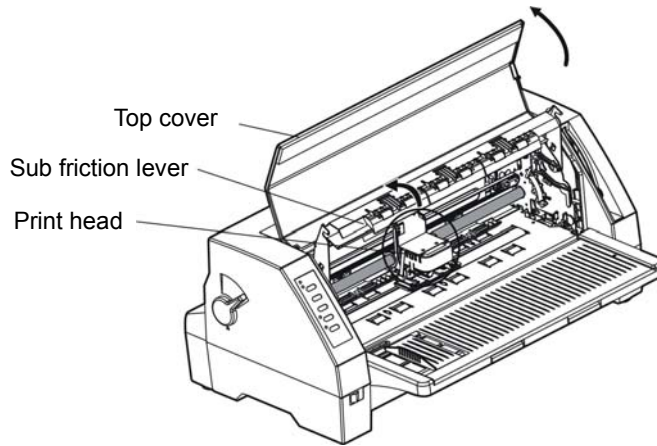

Figure 2-6 Opening the top cover and the sub friction lever
3. Hold up the sub friction lever. (As Figure2-6 shown)